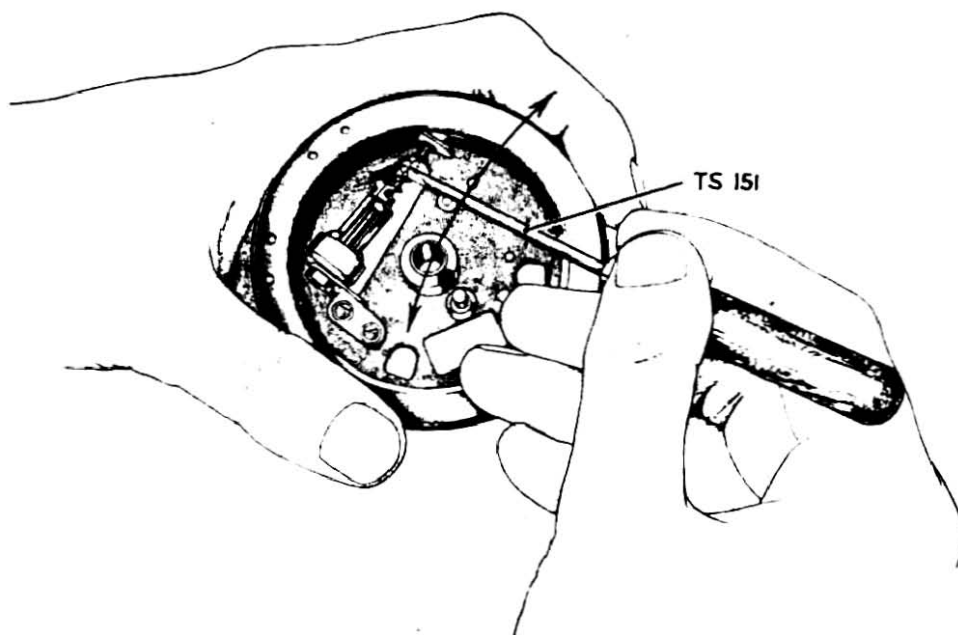

FIG.7 CHECKING ADJUSTMENT OF GOVERNOR
- 4.2 The governor should run smoothly in both directions. It should be free, with a maximum end play of 13 mils as near as can be judged by feel. The governor may be tested to prove that it is running satisfactorily in both directions, by running a small screwdriver along the governor worm as shown in Fig 7. The governor should be adjusted to run smoothly before any further assembling or adjustments are carried out.